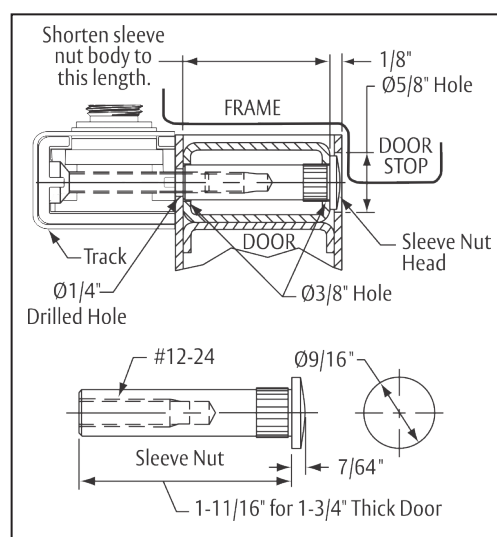

Figure 5
- c. For sleeve nuts and bolts, see illustration. (Figure 5)
3. Attach track using two (2) supplied fasteners for application.